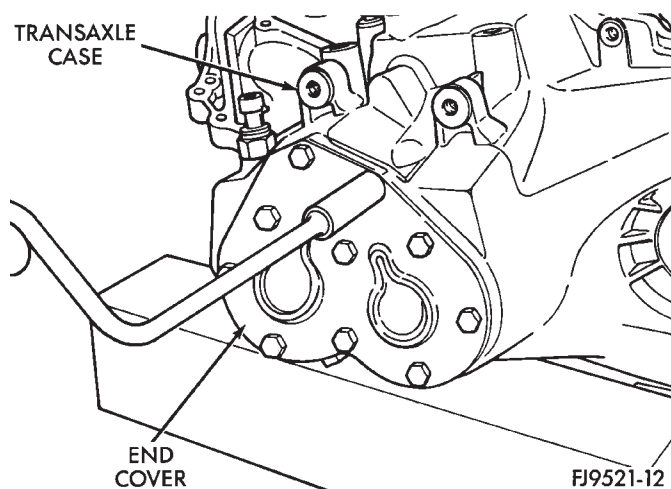

Fig. 78 Transaxle End Cover
(13) Apply Mopar® RTV sealant to end-cover outer edge and around bolt holes. Install end-cover onto gear case. Tighten end cover bolts to 29 N·m (21 ft. lbs.) torque (Fig. 78).
(14) Remove gear case from bench fixture.
(15) Install gear case in a holding fixture with end cover facing down.